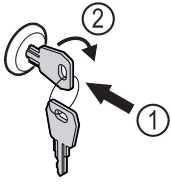

Fig. 122
- ▶ Insert the key. Fig. 122 (1)
- ▶ Turn the key clockwise by 90°. Fig. 122 (2)